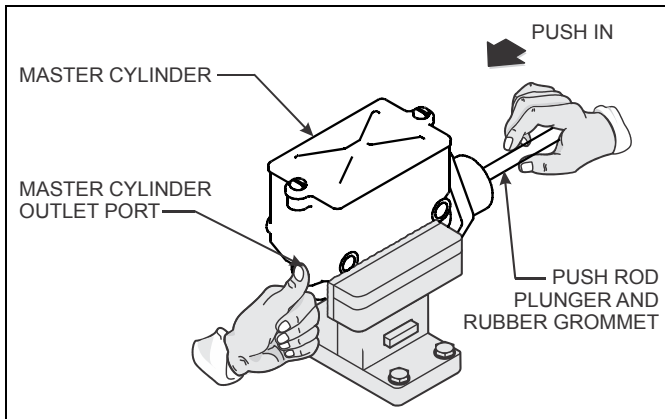

Figure 3-32: Support and Bench Bleed the Cylinder
4. Press a finger tightly over the master cylinder outlet port to prevent air from being drawn back into the cylinder when the push rod is released, or feed a separate line (flexible tubing) from the cylinder port(s) and immerse the other end in the container of new brake fluid. See Figure 3-32 on page 3-53.
1. Support the cylinder (in a vise) to prevent fluid spillage while allowing you to push the internal piston with the push rod (See Figure 3-32).
3. Slowly push in on the rubber boot and cylinder plunger (push rod) assembly to force air from the cylinder, then hold the push rod in (See Figure 3-32).